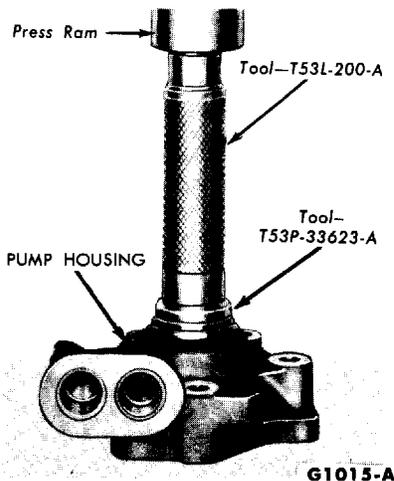

FIG. 5—Carrier Shaft Seal Installation
3. Press the seal into the housing (Fig. 5) until it seats firmly and evenly against the shoulder in the bore.